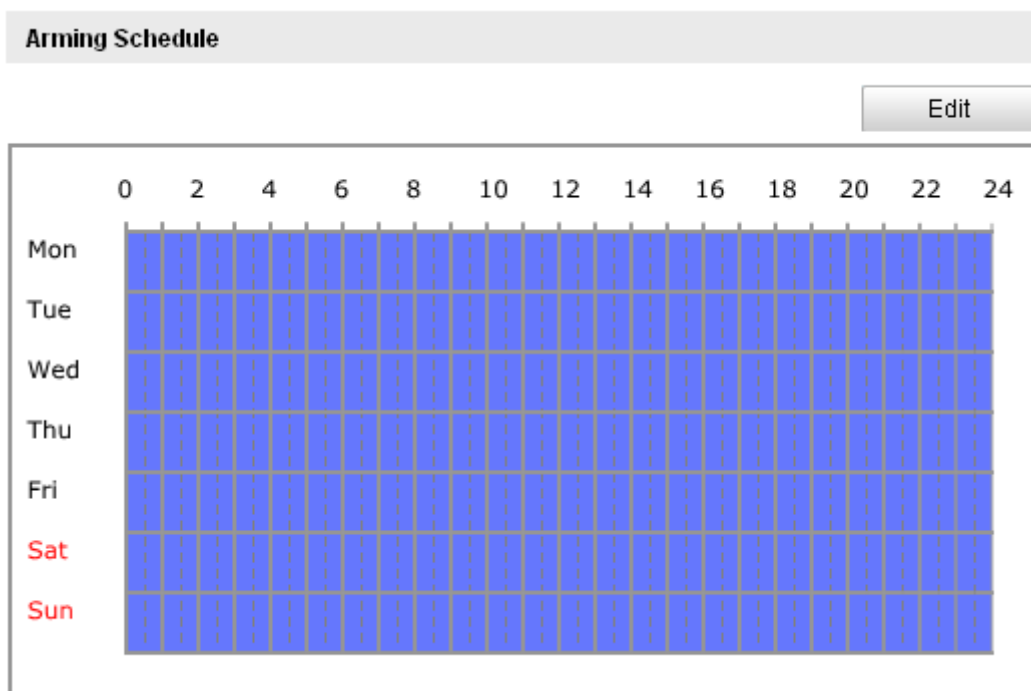

Figure 6-31 Arming Schedule
(1) To edit the arming schedule as shown in Figure 6-32, click in Figure 6-31.